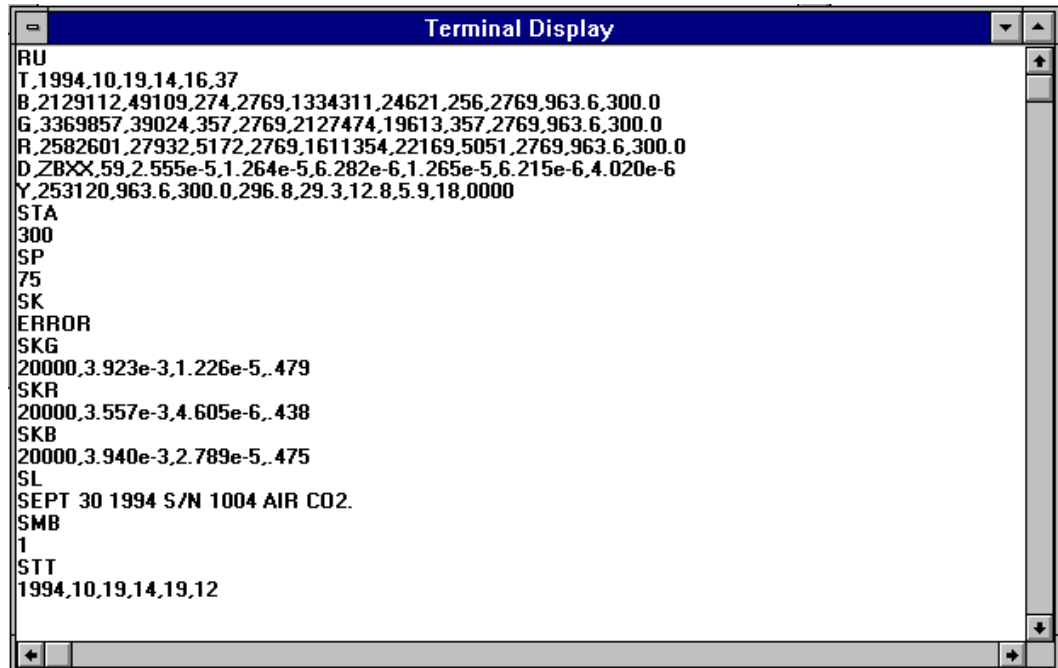

Figure 5-9
1. Select the **Terminal Mode** command from the Run menu. The Terminal Display appears, Figure 5-9. This display allows you to communicate with the Nephelometer using the Serial Data Commands, described in Chapter 6.)